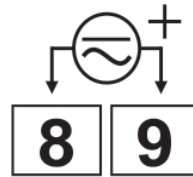

Figure 13 – 24 Vdc/ac Model
- **0-20 mA and 4-20 mA:** Figure 13 shows the connection mode for current signals.